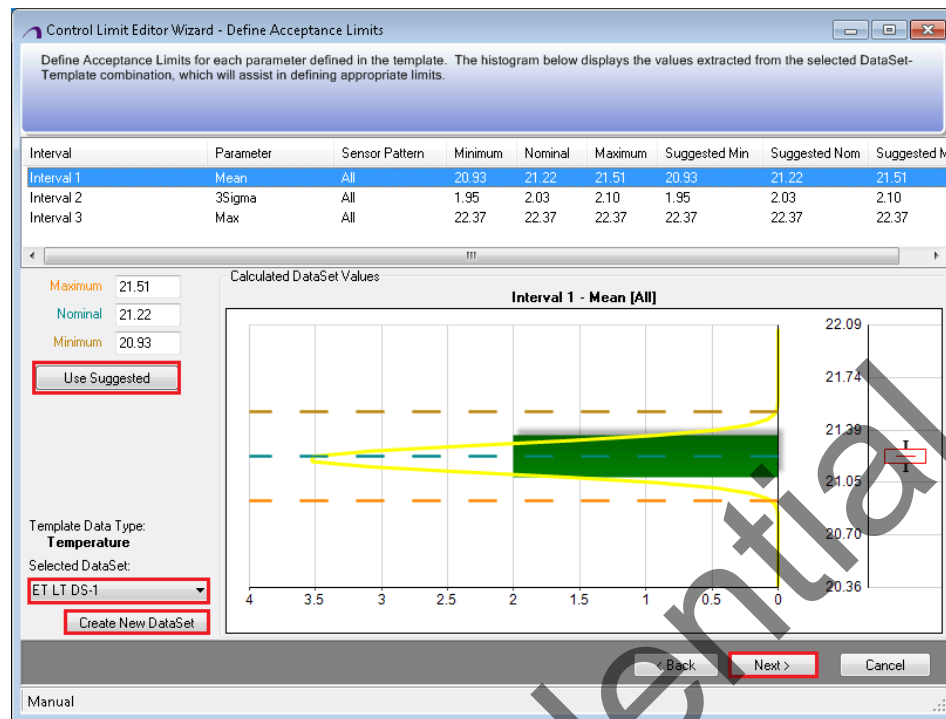

Figure 6-8 Control Limit Editor Wizard – To set parameter values
5. Click the **Use Suggested** button to use the suggested values calculated from the dataset, as shown in Figure 6-8.